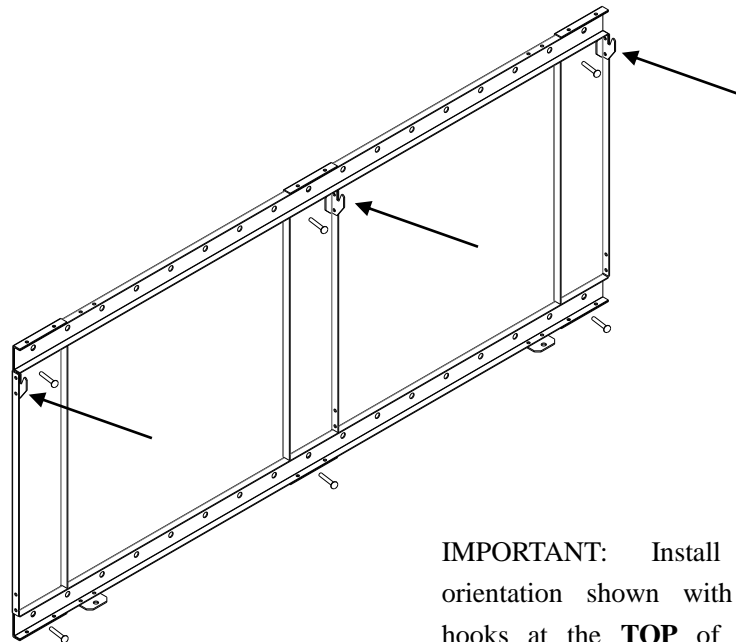

Fig. 5
5. Insert ST5x40 screws to secure the bracket to wall (Fig. 5)